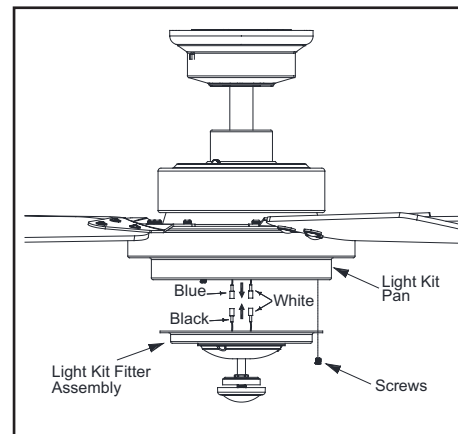

Figure 15
1. Remove one screw from the light kit pan and loosen, but do not remove the other two screws. Connect the wires from the light kit fitter assembly to the wires from the fan motor assembly by connecting the molded adaptor plugs together. Carefully tuck all wires and splices into the switch cap. (Figure 15)
2. Push the light kit fitter assembly up so that the two loosened screw heads fit into the keyhole slots. Turn the light kit fitter assembly clockwise, tighten the screws. Re-install the screw that was removed in step 1 and tighten firmly. (Figure 15)